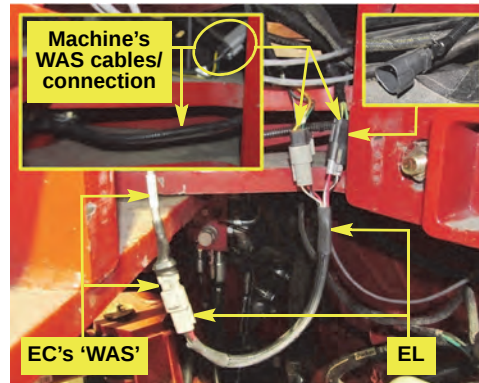

Figure 3h: Steering controller to machine's WAS cable(s) connection
- h. Locate and split the machine's wheel angle sensor cable(s) connection (with triangular connector—Figure 3h top right inset) under the cab (coming from forward of the steering controller installation—Figure 3h: connector already split). Connect WAS adapter cable **EL's** branch connectors to the machine's connectors. Connect the other end of **EL** to **EC's** branch cable labeled 'WAS' (Figure 3h).